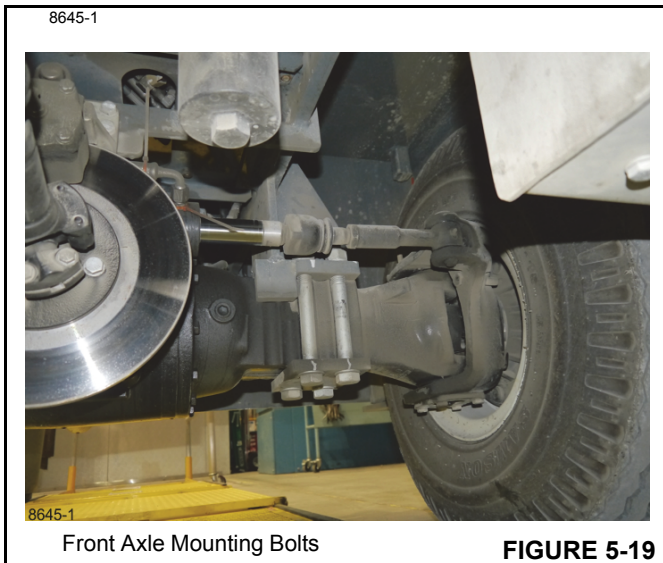

FIGURE 5-19
Torque the 1" axle mounting bolts (8) to 782 Nm (575 lb-ft). See Figure 5-19.